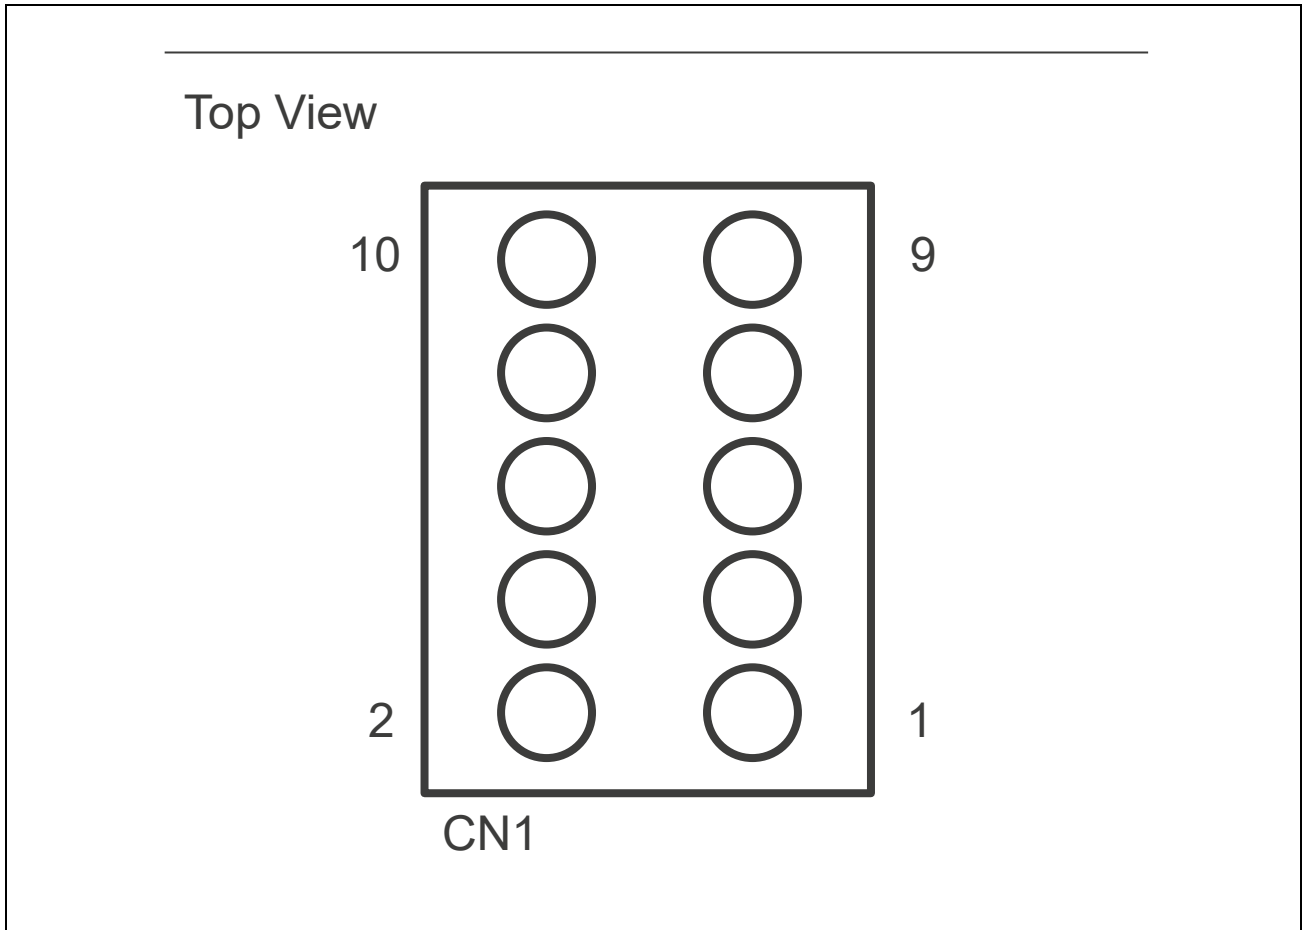

Figure 3.2 ADC Connector (CN1) Pin Layout Diagram
**Figure 3.2** illustrates the layout of connector pins. **Table 3.1** shows the assignment of connector pins.